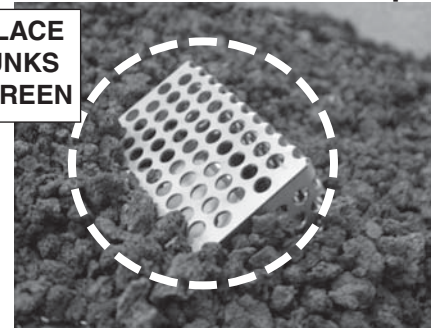

Fig. 12-1
This screen must be clear and free of obstructions at all times to ensure proper operation (Fig. 12-1).
1. Pour the glass out of the bag(s) onto the installed outdoor campfire, evenly covering the Lava Chunks (see above) but not the screen (Fig. 12-1 and 12-2).